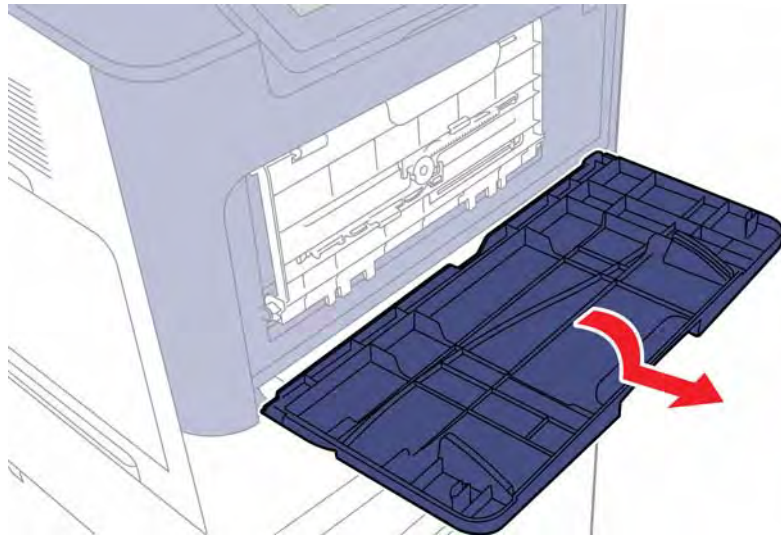

Figure 2 Remove the Tray 1 cover
3. Rotate the Tray 1 cover to horizontal to release the cover from the Front Cover, Figure 2.